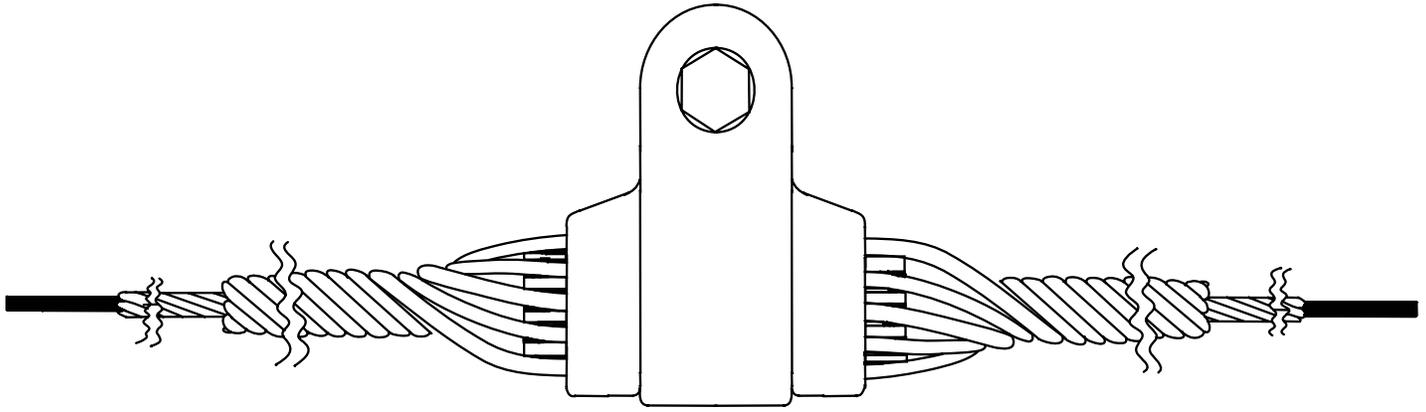

Figure 4 – Dual Layer Heliformed Suspension Unit
4.1 The dual layer heliformed suspension unit is used to attach ADSS cable to intermediate poles or tower structures along the cable route. The dual layer suspension unit is intended for use in spans up to 2000 ft where the turn angle does not exceed 30°. The suspension unit consists of structural reinforcing rods, suspension rods, suspension housing, suspension strap, and cable insert (Figure 4). Installation of the dual layer suspension unit is similar to the single layer suspension unit with the exception that a layer of structural reinforcing rods are first applied to the cable. The following instructions describe installation of the structural reinforcing rods. The reader is then referred to the previous section for installation of the remaining components.